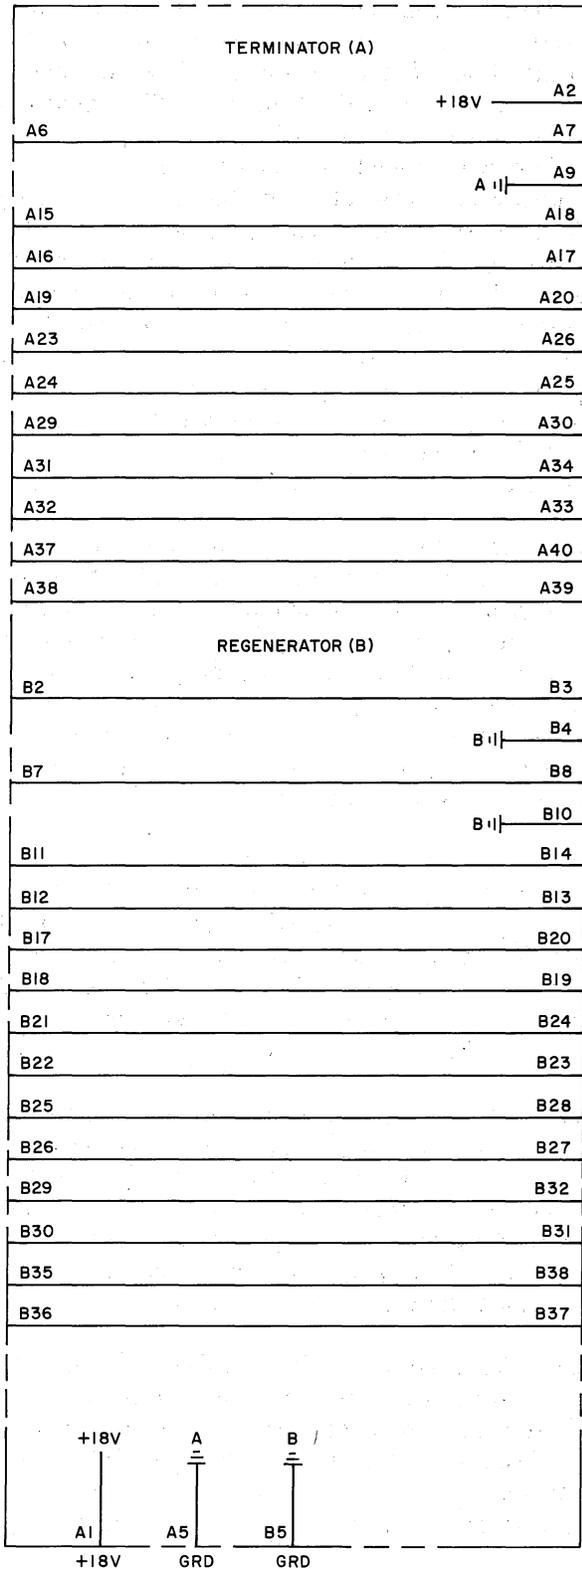

Fig. 10—Circuit Pack CU 1 (Terminator-Regenerator) Board
3.22 Remove the circuit pack retaining bar from the "G" nest. Use the extracting tool and carefully remove the CU 1 circuit pack in location G01. Observe that the board end is marked "REGENERATOR." (See Fig. 10.) If the board is marked "TERMINATOR," remove the small screw and pivot the board 180 degrees. Visually note that the board is now marked "REGENERATOR." Replace the small retaining screw and carefully replace the CU 1 circuit pack to its original location.